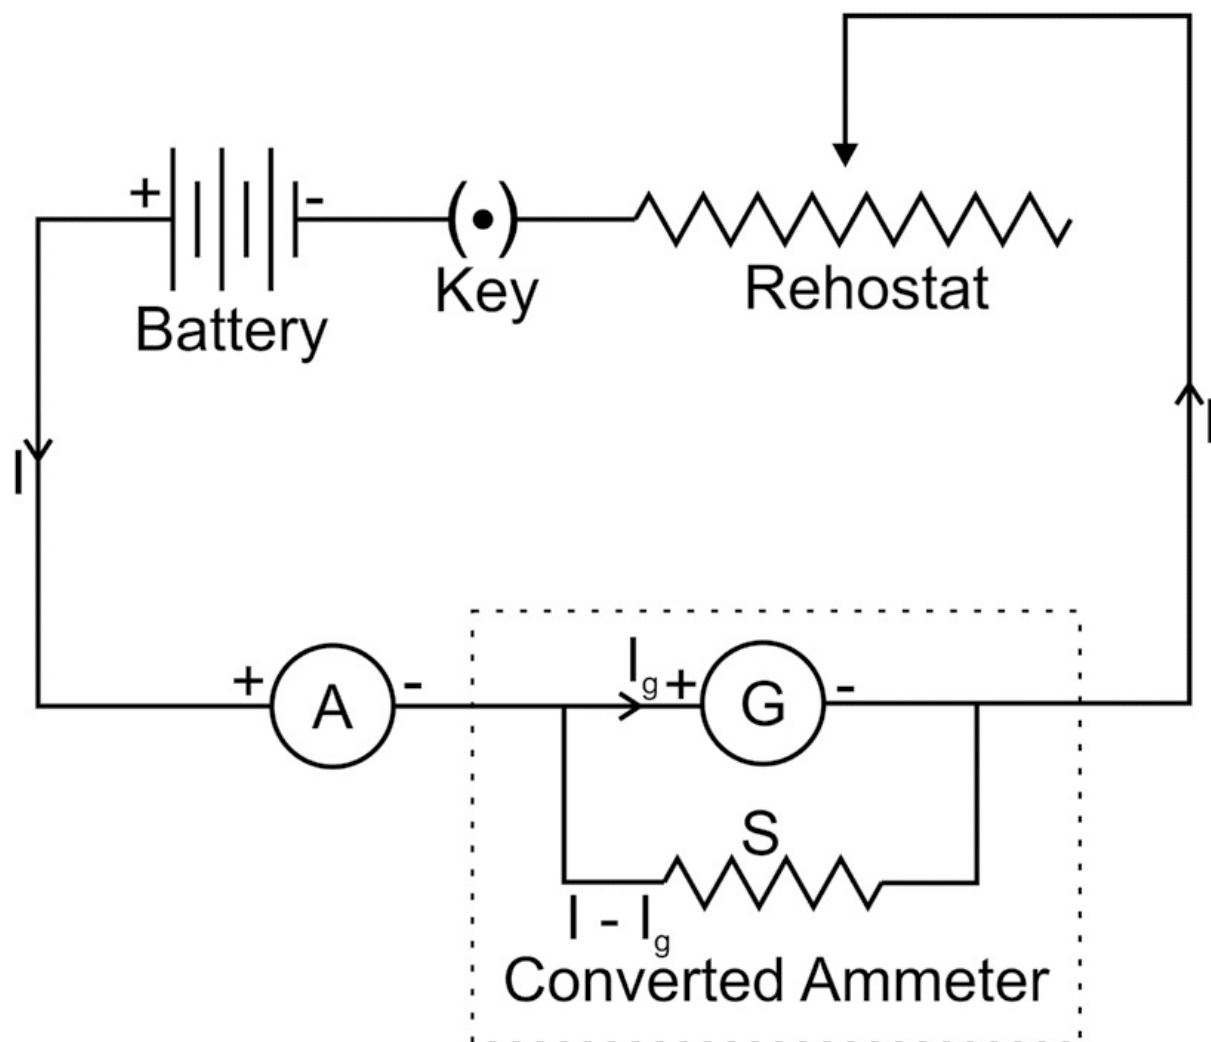

Fig P12.1
5. Make connection as per circuit diagram in Fig P12.1.